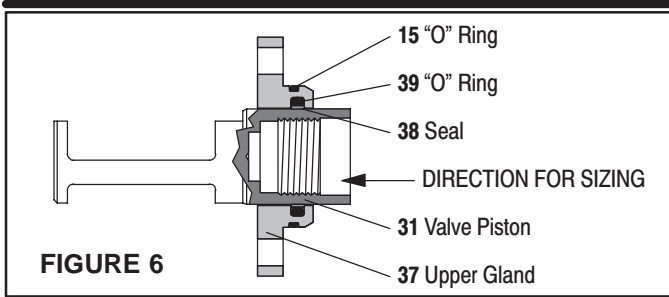

FIGURE 6
25. Grease and carefully push the (31) valve piston into the (37) upper gland to size the (38) seal, then remove (see figure 6).